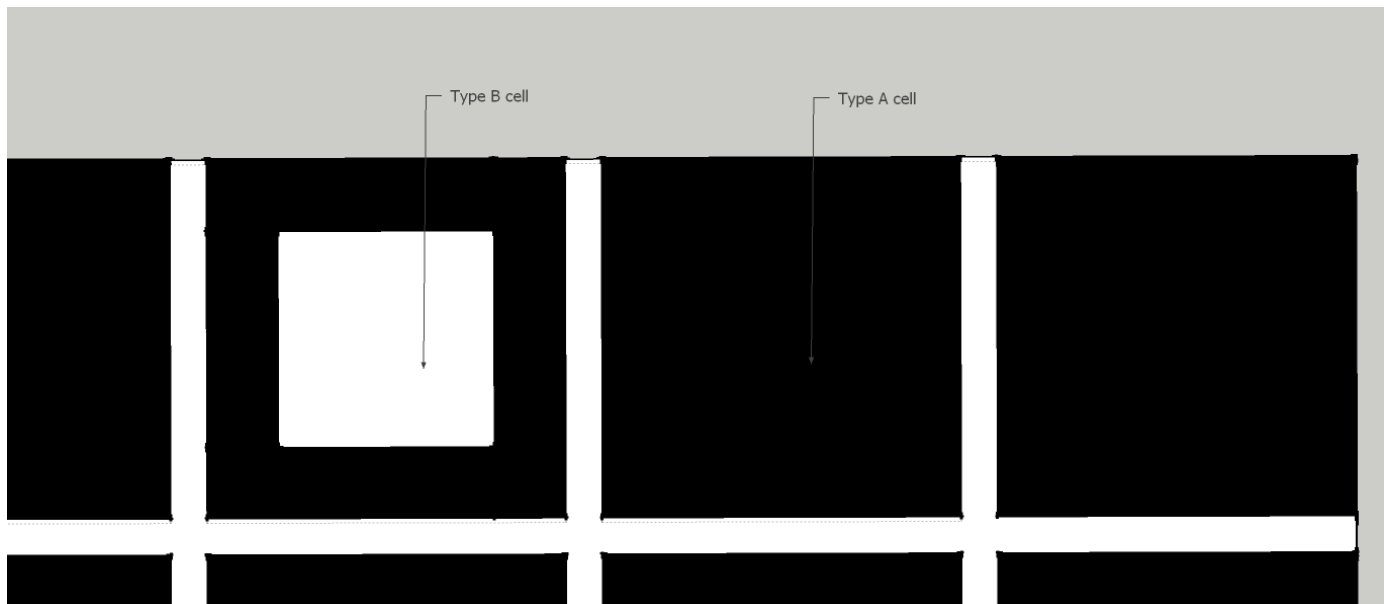

Figure2.
12. LED which is indicating colour code of a given square should be within the boundaries of that square. Type A square cell should be displayed by an 'off' state of the LED while Type B square cell should be displayed by 'on' state of the LED. (Type A & B explained later and in Figure 2).).
1. The arena will be made of 2 types of square cells,(see Figure 2)